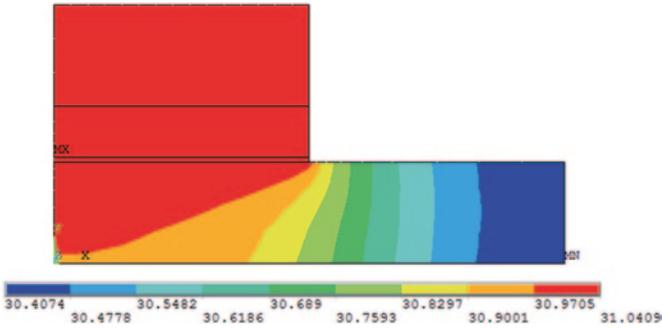

Fig. 9.51 Contour plot of temperature at substep 10 (time = 30 s)
- *Contour Nodal Solution Data* dialog box appears. Select **DOF Solution** and **Nodal Temperature**; click on **OK**. The contour plot appears, as shown in Fig. 9.51.